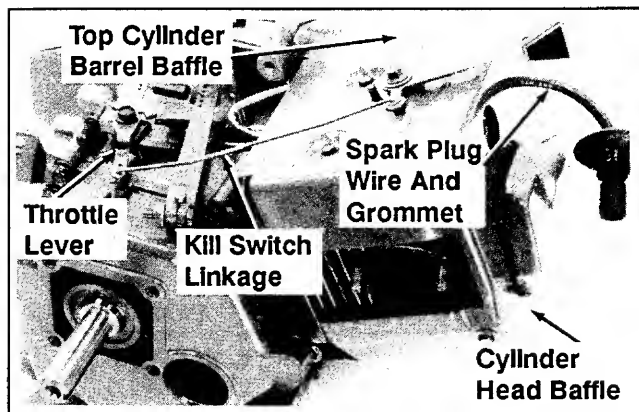

Figure 9-10. Removing Baffles.
1. See Figures 9-10 and 9-11. Loosen four hex. flange screws and remove the cylinder head baffle. Do not remove the spark plug wire and grommet from the baffle until later if needed. Remove bottom baffle from underside of cylinder.